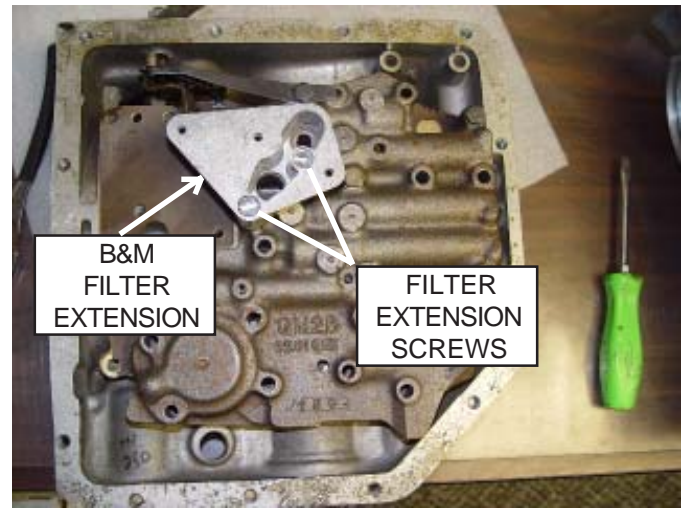

Figure 2
**STEP 3.** Install the filter extension and new gasket, supplied with the kit, in position on the valve body. Install filter extension screws and tighten securely (See Fig. 2). Install special B&M filter using the screws and nuts supplied with the kit. Tighten screws securely. **NOTE: One hole will be blocked by the the B&M filter with NO affect to functionality.**